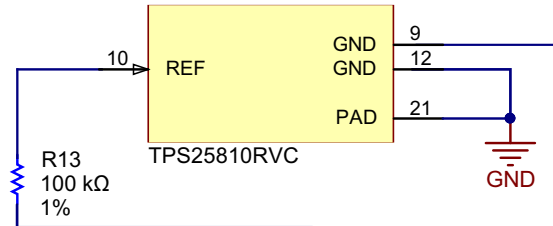

Figure 19.
- The connection between the resistor and the GND pin should be isolated from the GND plane. See Figure 19.